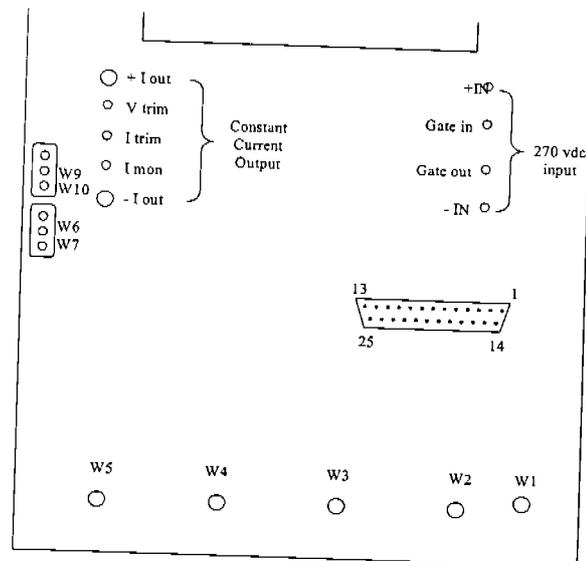

Figure 6-1 POWER
6.1.1.2 Check for shorts between each output wires (W1, W2, W3, W4, W5, W9, W10 and ground with the multi-meter set for "ohms". (See Figure 6-1 Power PCB Layout)